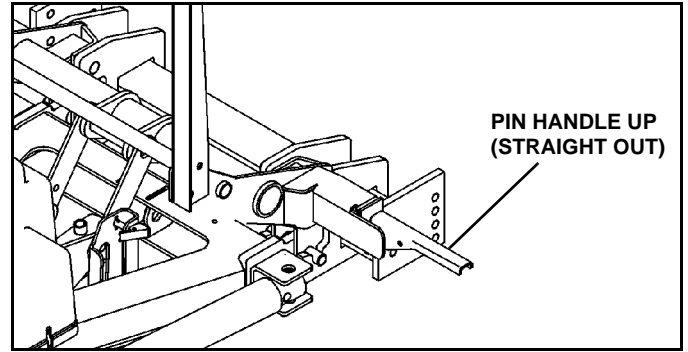

Figure 1-25
5. Rotate pin handles up (straight out) to unlock main pins. (See Figure 1-25).